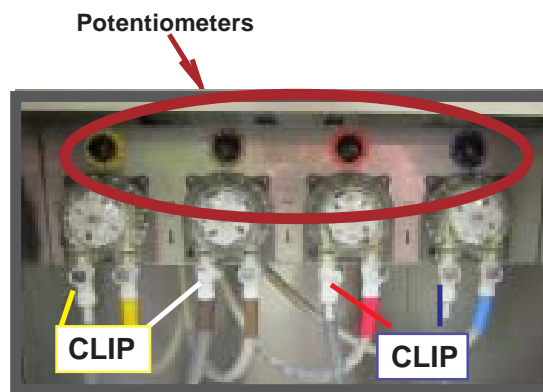

Figure 11-5
2. Open the cabinet below the freezer to install the pump housings. The pump housing with the clear peristaltic tube is to be used on the pump with the brown colored potentiometer dial (see figure 11-5).
i. Disconnect a hose from the pump by pushing on the metal clip of the connector (see figure 11-5). Remove the pickup tube from the bucket of sanitizer, draining sanitizer back into the bucket. Reconnect hose to pump.
l. Press water button (7 figure 11-5) to clear line.